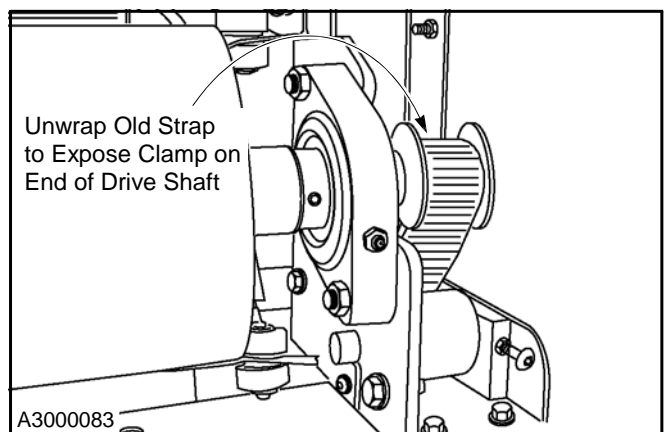

Figure 21
5. Release the old nylon strap from the spool by removing the two phillips head screws near the end of the shaft. Save all hardware. (See Figure 21.)